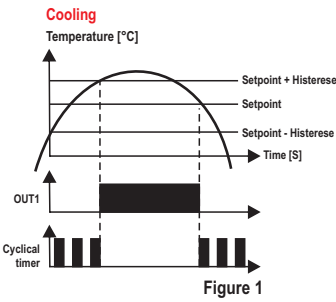

Figure 1
- **Timer triggered by SP1 (F22=1):** the timer is triggered whenever the temperature reaches the value configured for SP1. The timer switches off when the temperature reaches SP1 + F06 (if stage 1 is configured as refrigeration) or SP1 - F06 (if stage 1 is configured as heating), as shown in Figure 1.
- **Stage 1 linked to the cyclical timer (timer switches on upon power up) (F22=2):** in this configuration, the timer cycles according to the times configured in F20 ($[CON]$) and F21 ($[OFF]$). The Stage 1 starts to cycle when the temperature reaches SP1 + F06 (if stage 1 is configured as refrigeration) or SP1 - F06 (if stage 1 is configured as heating), as shown in Figure 1.